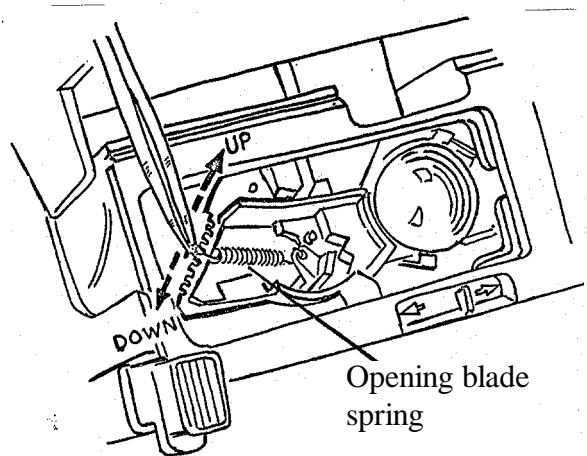

Fig. 9 Adjusting Blade Spring
- c. Move the opening blade spring up in the rack to increase the reading or down in the rack to decrease the reading (Fig. 9).